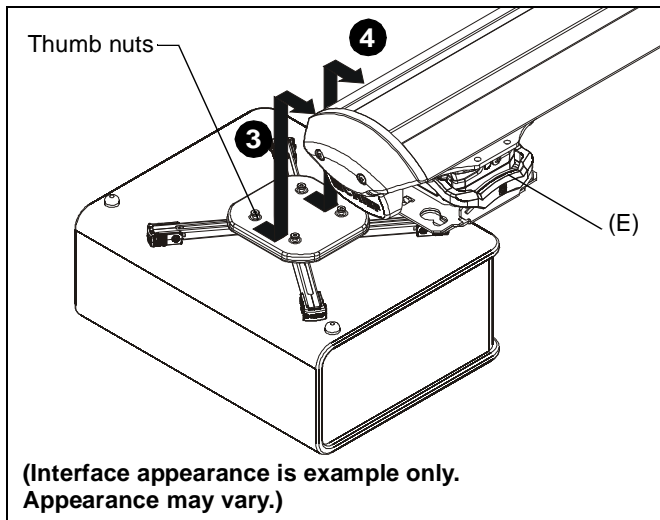

Figure 16
1. Secure interface bracket (AA) to top of InFocus projector (not included) using hardware and instructions included with the interface bracket.
2. Orient projector with attached interface bracket as shown. (See Figure 16)
3. Lift projector so that screws with thumb nuts are aligned with mounting slots in mount base. (See Figure 16)
4. Slide projector with interface bracket onto mounting slots in projector mount (F) until screws are seated against the back of mounting slots. (See Figure 16)